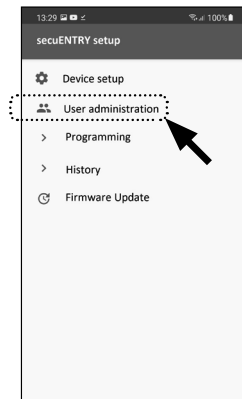

Fig. 55
- ③ Tap on "User administration" in the submenu (Fig. 55).